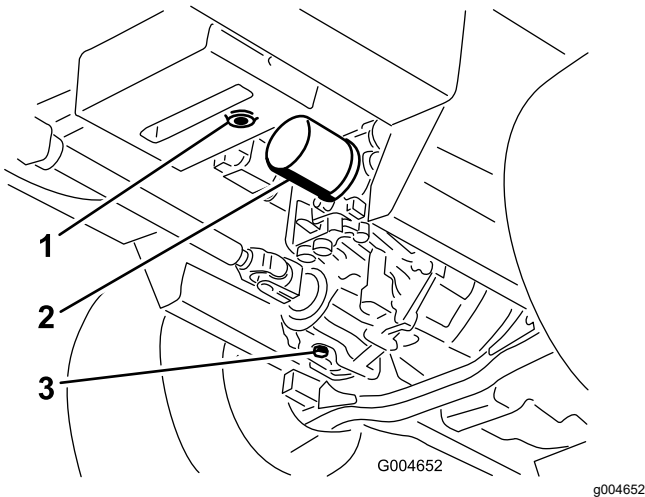

Figure 96
3. Place a large pan under the hydraulic reservoir and transmission case and remove the plugs, draining all of the hydraulic fluid (Figure 96).
4. Clean the area around the hydraulic fluid filter and remove the filter (Figure 96).